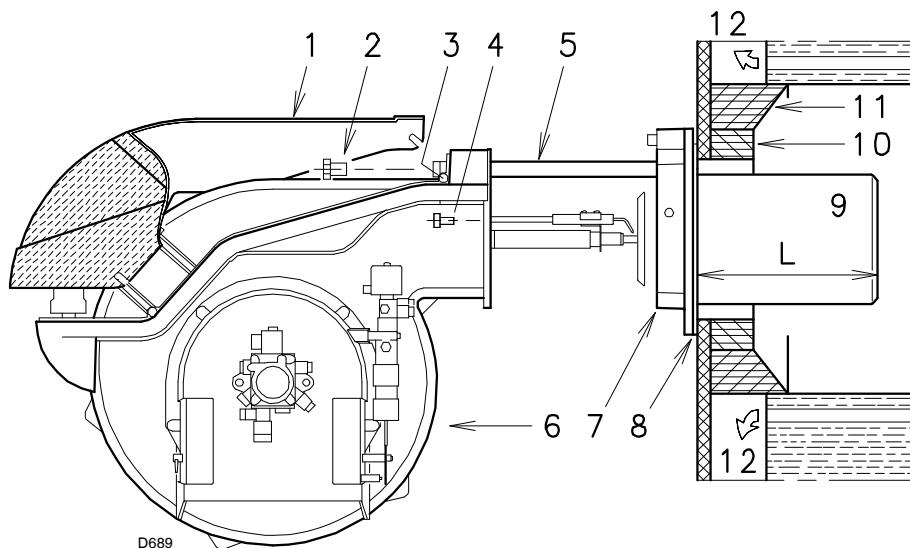

Fig. 7
- loosen the 4 screws 3)(Fig. 7) and remove the cover 1);
For boilers having a water-cooled front the refractory fettling 10)-11)(Fig. 7) is not required unless it is expressly requested by the boiler manufacturer.
- Once this operation has been carried out (if it was required), secure flange 7)(Fig. 7) to the boiler plate interposing the supplied gasket 8).
- Retract the burner on its slide bars as shown in (Fig. 7 at page 12).